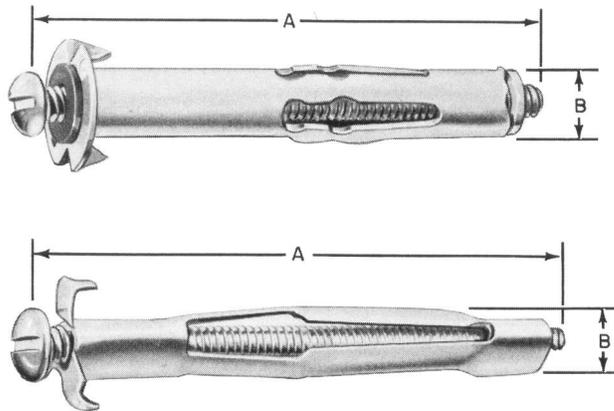

Fig. 1—B Wall Screw Anchor
2.03 The anchors are available in three sizes (Table A). Either of the two designs shown in Fig. 1 may be supplied. To obtain maximum holding power, the wall thickness should first be determined, and then the correct anchor should be selected.